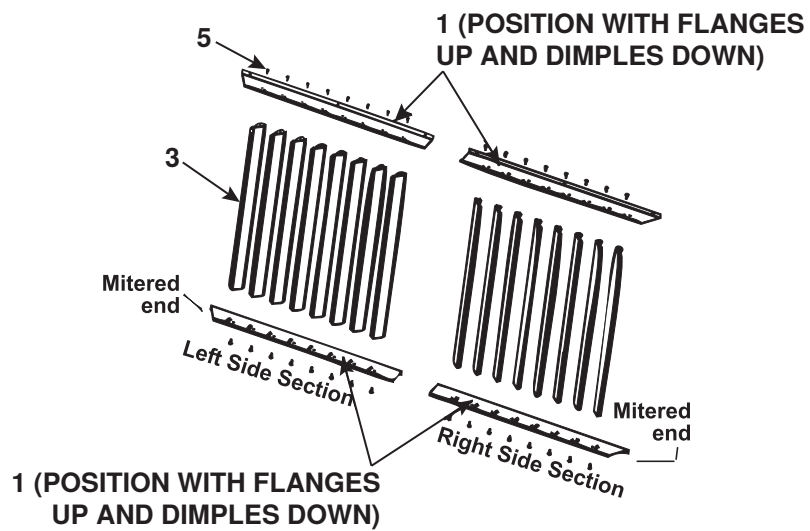

Figure 33. Vertical Louver Assembly—RA and RAD Models, Unit Size 350 (Refer to Table 22)
- The vertical louver assembly for RA and RAD models—unit size 350—is shown in Figure 33.